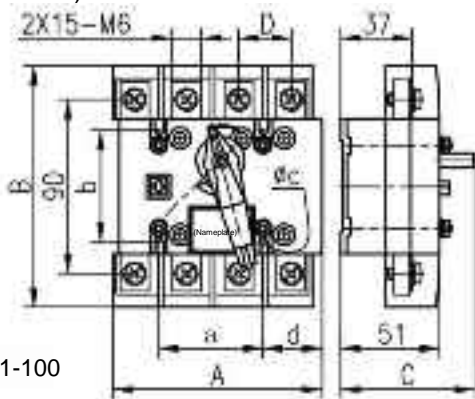

Figure 5: HUH1-100
6.4. Outline and installation dimensions of HUH1-100 and HUH1-100/Z (see Figures 5–7 and Table 4)